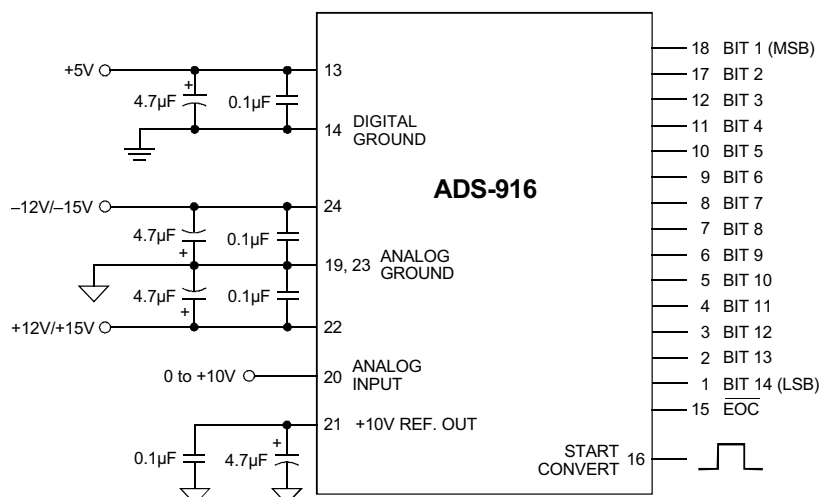

Figure 3. Typical DAC-HF Connection Diagram
1. Connect the converter as shown in Figure 3.